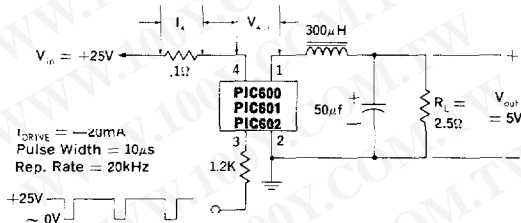

Figure 1. PIC600, 601, 602 Switching Speed Circuit
- The efficiency is a measure of internal power losses and is equal to Output Power divided by Input Power. The switching speed circuit of Figure 1., in which the efficiency is measured, is representative of typical operating conditions for the PIC600 switching regulators.